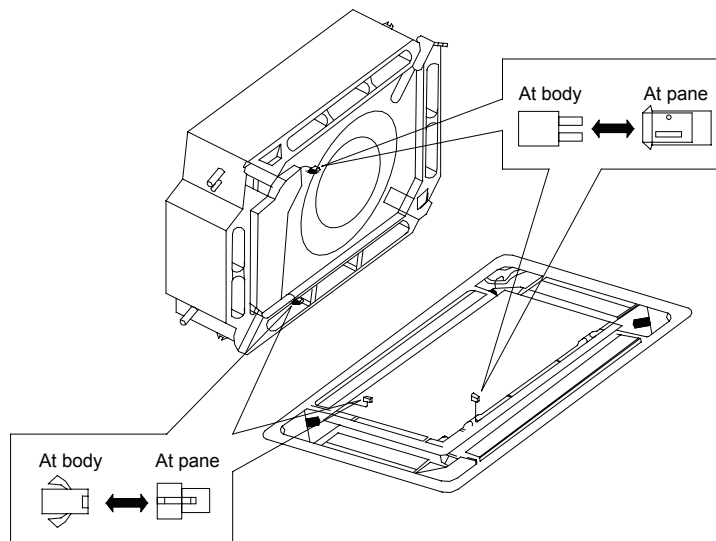

Fig.16
3). Wiring of the decorative panel (Fig.16)